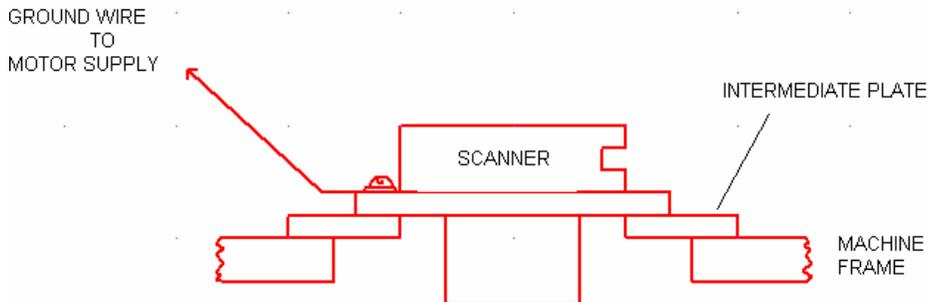

FIGURE 3
**Isolate scanner motor case:** The case of the scanner motor is capacitively coupled to the stator inside. The unwanted currents from the scanner case can flow through sensitive circuits by way of the equipment frame. The easiest way to eliminate this possibility would be to mount the scanner to an intermediate insulated plate made out of hard plastic or phenolic. A ground wire would be connected to the scanner mounting bolts, the other end would be returned to the high current motor supply ground. See figure 3.